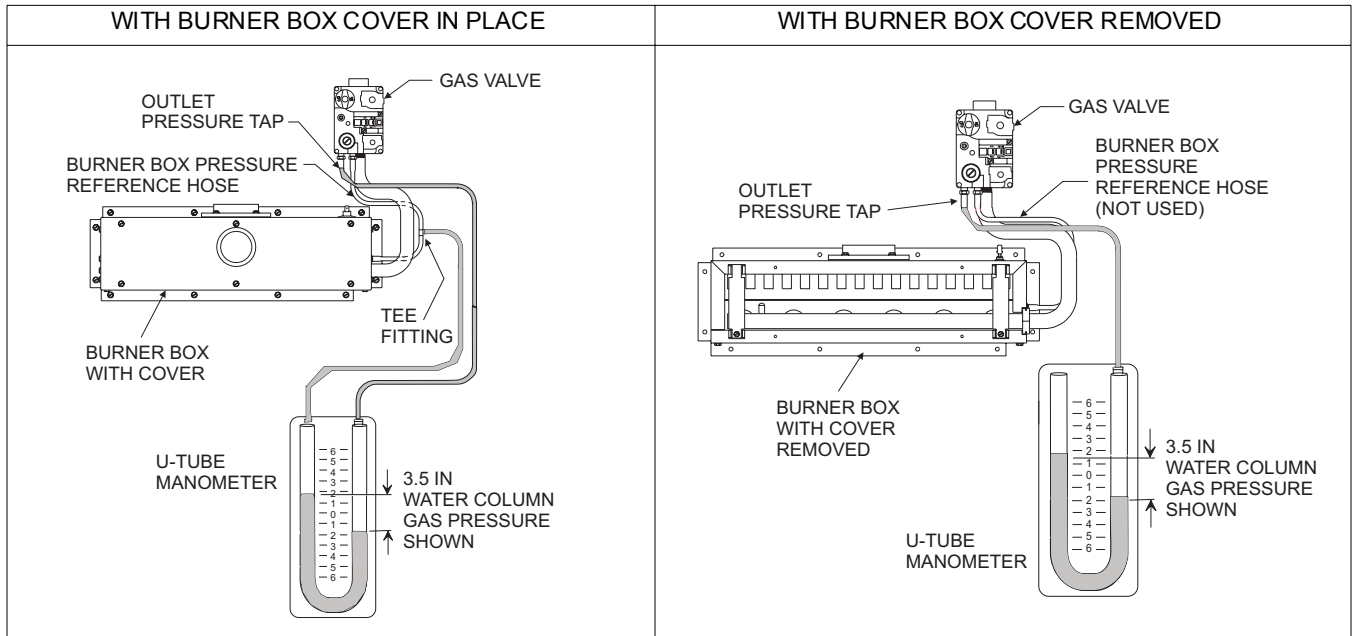

FIGURE 38 : Upflow Models (P*UR/ FG9-UP / G9T-UP) - Reading Gas Pressure
- a. **Reading the gas pressure with the burner box cover in place** - Disconnect the pressure reference hose from the right side of the burner box. Using a tee fitting and a short piece of hose, connect the negative side of the manometer to the burner box pressure reference port. Connect the positive side of the manometer to the adapter previously installed in the gas valve. Refer to Figures 38 and 39 on page 29 for connection details.